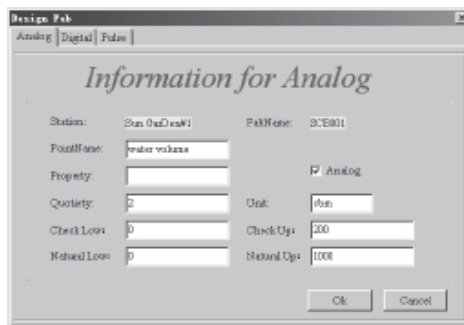

Fig. 4-14 Defining the Tele-metering Port
Step 5. Set Port I4, Port I5 and Port I6 as °Water volume;±°Gas volume;±°Electricity volume;± respectively as in Fig. 4-14.